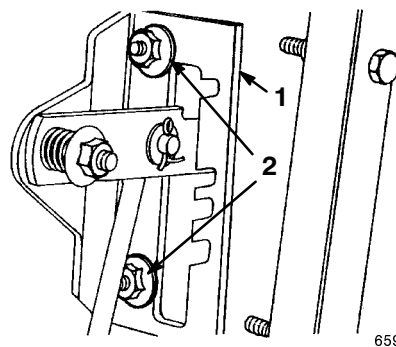
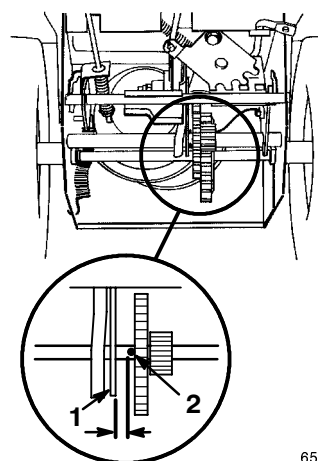

Figure 27
Figure 28
- Loosen the flange nuts that secure the selector plate to the control panel (Fig. 27).
Note: The drive assembly should be 1/8 inch (3 mm) from the roll pin; if not, slide the selector plate (Fig. 27) until the gap is 1/8 inch (3 mm) (Fig. 28).